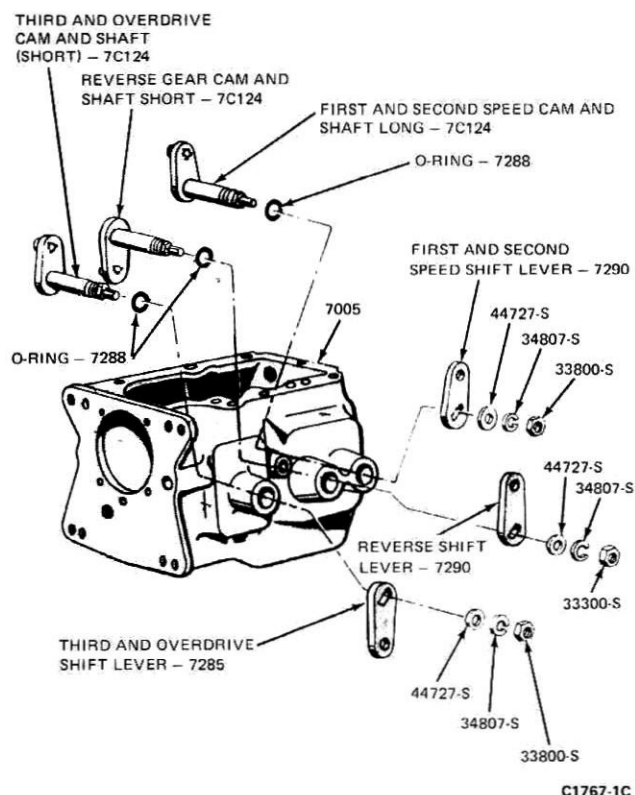

FIG. 17 Cam and Shafts and Shift Levers
3. Remove and discard the O-ring from each cam and shaft (Fig. 17).